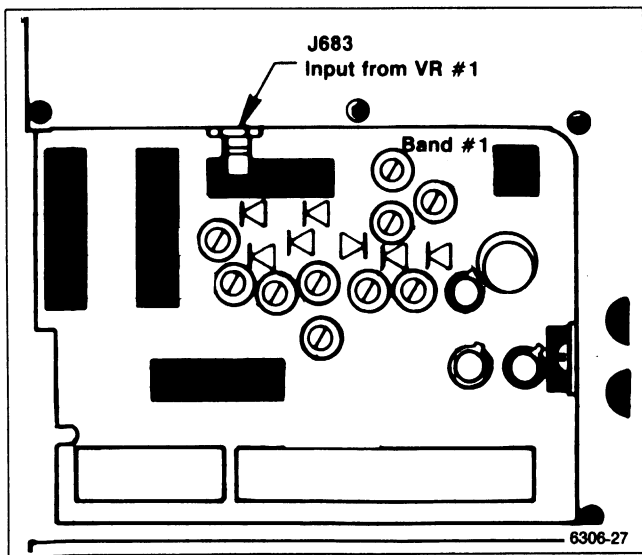

Figure 5-21. Band leveling adjustment and gain diode locations.
f. Adjust Band 1 Gain R2031 on the VR Mother board #2 (Figure 5-21) for a full screen ( $-20$  dBm) display.